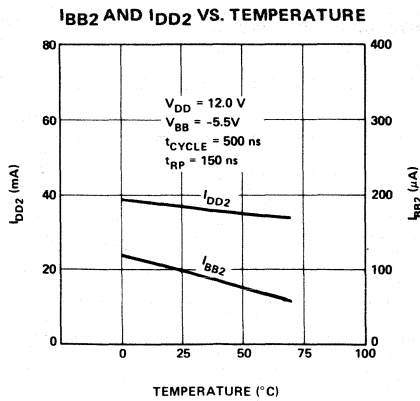

Figure 1.
1. For $(\overline{RAS}$ before $\overline{CAS})$ use I_{DD2} from Figures 1 and 2.
2. For $(\overline{CAS}$ before $\overline{RAS})$ multiply I_{DD2} determined in (1) by 0.96.
3. For $(\overline{RAS}$ only) multiply I_{DD2} determined in (1) by 0.78.